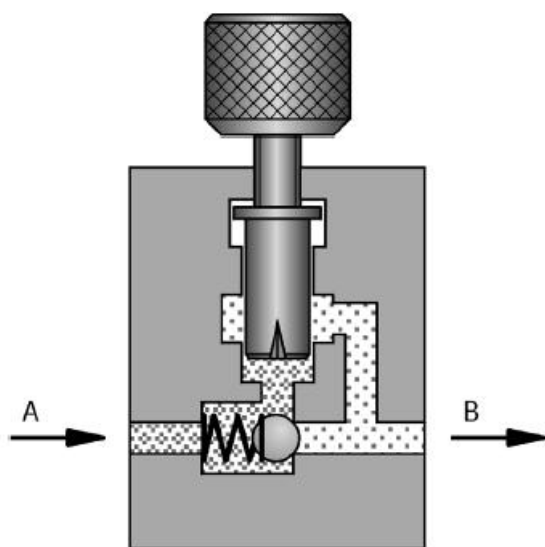

FIG 7.
- B. The hydraulic flow is throttled in the flow direction from A to B. (Fig 7)